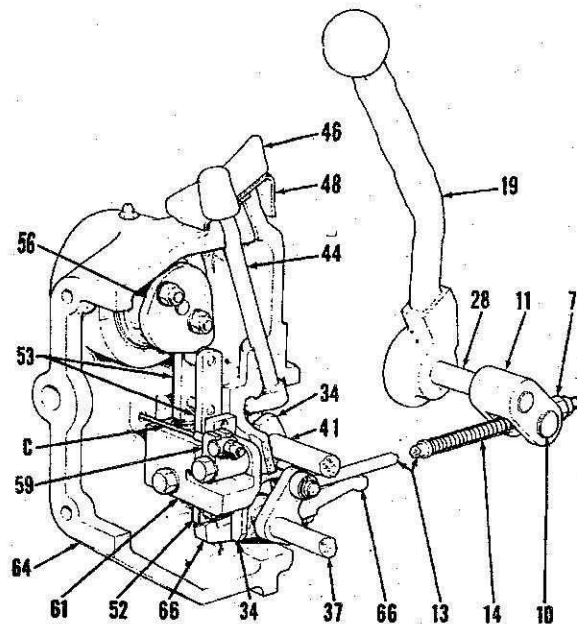

Fig. 206—Assembly view of control lever and control mechanism. Refer to Figs. 204 and 205 for exploded view of control lever and mechanism.
To remove and disassemble control mechanism from rockshaft bracket, proceed as follows: Disconnect flexible cable (C—Fig. 206) and withdraw cable from bracket. Remove guide bracket (61—Fig. 205) and push rods (52 & 53), then unbolt and remove control valve assembly from bracket. Unbolt and remove cam (56) and withdraw rockshaft from bracket. Remove snap ring (40) and connecting rod (13) from rocker shaft (37). Drive spring pin (35) from selector fork (34) and remove expansion plug (63) from right hand side of bracket by drilling hole through plug and prying it out. Drive selector rod (41) out and remove fork (34), catching detent ball (36) as rod is removed from bracket. Extract spring (42) with wire hook.
Fig. 204 — Exploded view of control lever housing assembly. Note that connecting rod (13) is also shown in exploded view of control mechanism (rockshaft right hand support bracket) housing. Refer also to assembly drawing in Fig. 206.
Fig. 205—Exploded view of hydraulic system control mechanism that is mounted in rockshaft right hand support bracket (64). Note that connecting rod (13) is also shown in Fig. 204. Refer also to the assembly view in Fig. 206.